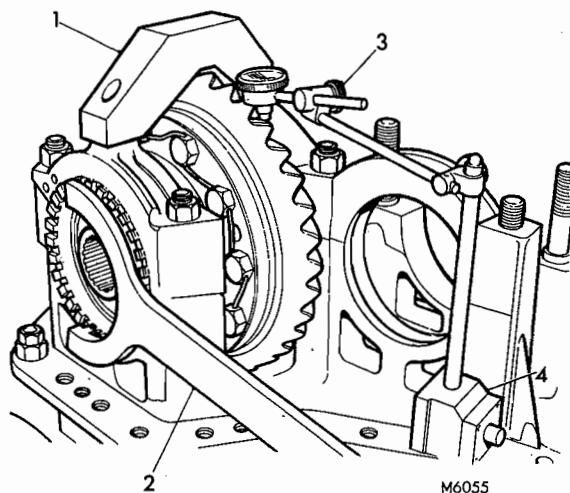
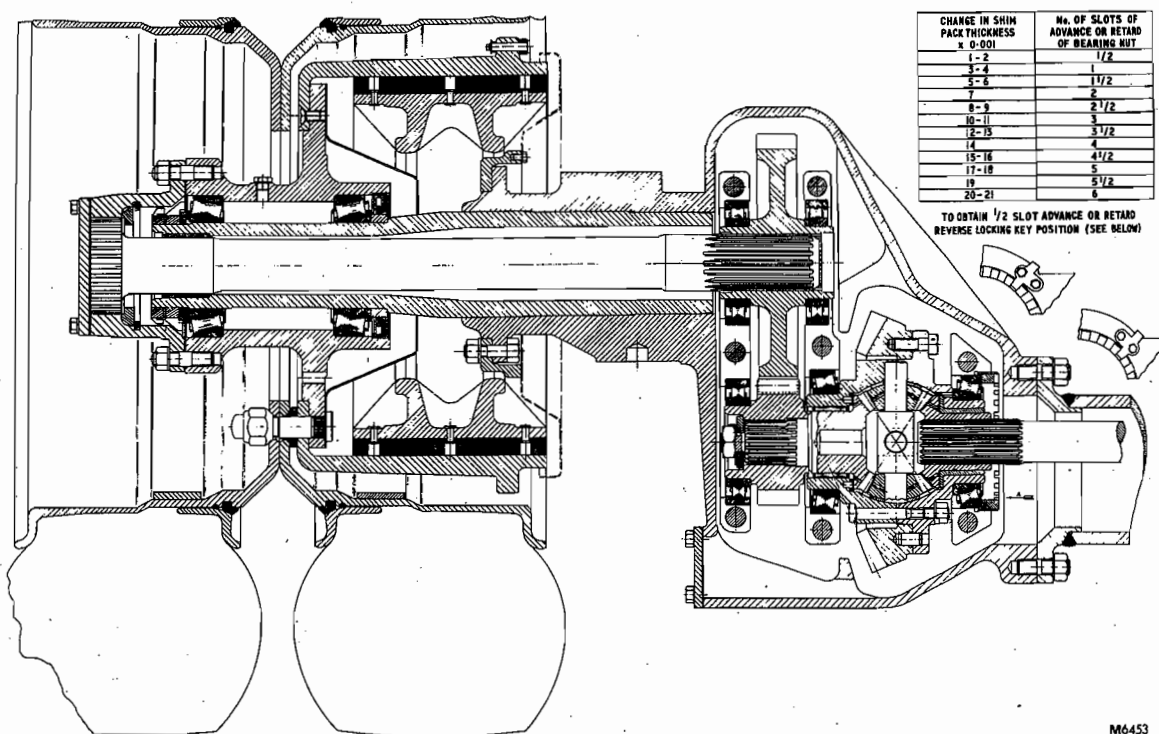

FIG. 6 CHECKING BACKLASH
FIG. 12 SECTION THROUGH AXLE—OFFSIDE
10. Mount a dial gauge with magnetic base as shown in Fig. 6, and check the backlash against the figure given in Data or as etched on bevel gear. Adjust backlash as necessary by adding or subtracting shims (63) and moving ring nut by a corresponding amount, see Fig. 12 for comparison chart table.